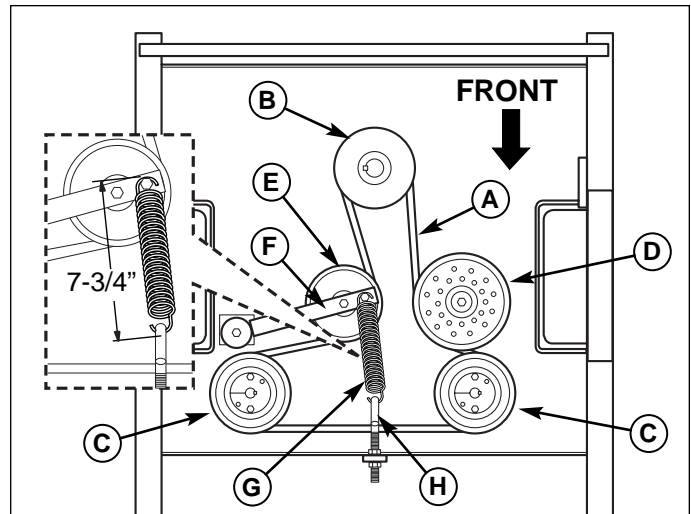

Figure 34. Hydraulic Pump Drive Belt Replacement
3. Loosen the nut towards the front of the machine on the spring anchor hook (H, Figure 34) to release the majority of the belt tension. Use caution and remove the nut to completely release the tension.
4. Remove the old belt and replace it with the new one. Make sure the V-side of the belt runs in the grooves of the crankshaft pulley and pump pulleys (B & C, Figure 34).
5. Reinstall the anchor hook (H, Figure 34) into the anchor tab and loosely fasten the nut. Adjust the spring until a measurement of 7-3/4" is achieved from the outside if the spring hooks. Tighten nut.